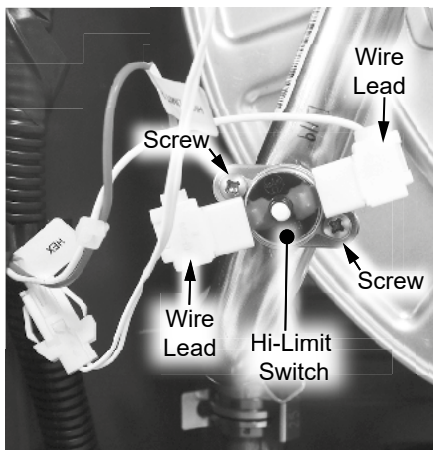

Figure 10 - Disconnect and remove hi-limit switch from HEX outlet tube
23 Locate the hi-limit switch installed to the HEX outlet tube as shown in Figure 10. Disconnect the two (2) wire leads from the hi-limit switch (labeled "HI LIMIT 2"). Remove the two (2) screws securing hi-limit switch to HEX outlet tube. Remove hi-limit switch and place aside with the two (2) screws in a safe place for reinstallation.